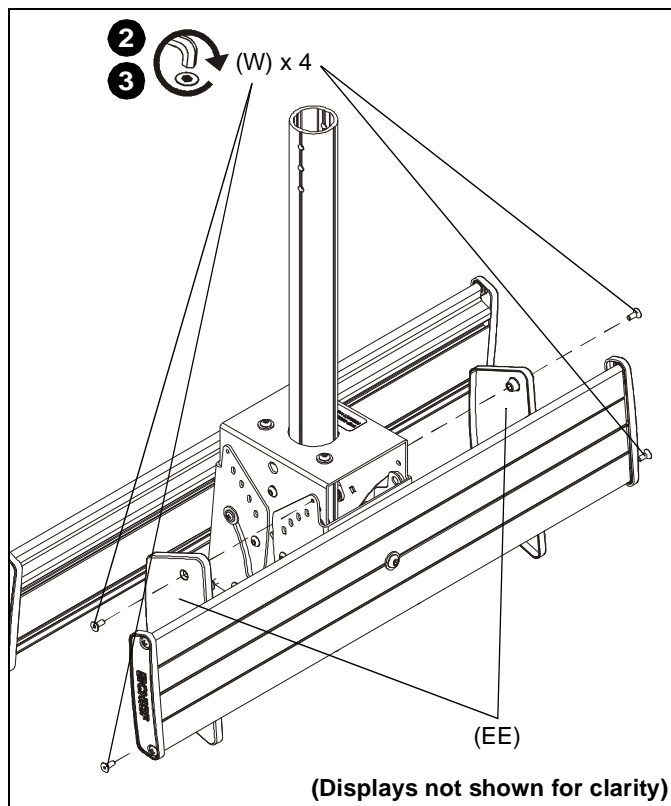

Figure 15
2. Install one side cover (EE) onto side of ceiling mount using two 10-24 x 1/2" flat head screws (W). (See Figure 15)